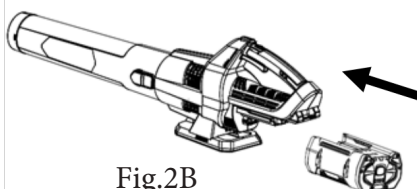

Fig.2B
- Once your battery has reached a full charge, disconnect it from the charger. To install the battery, line it up with the battery holder on the tool. Slide the battery into the battery holder and push until it snaps into place. (Fig.2B)